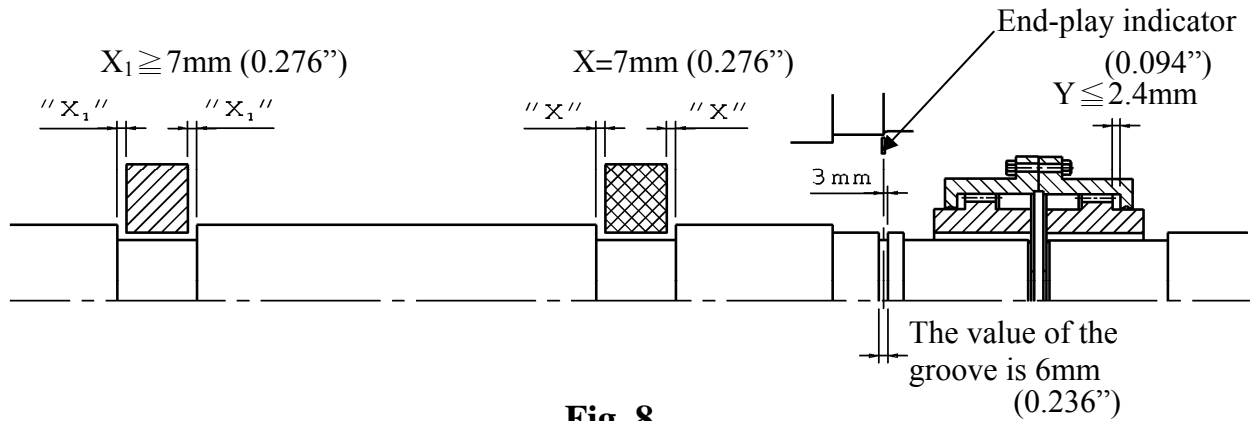

Fig. 8
- Unless otherwise specified, the designed end-play value X of the groove for TECO motors in general is within 7mm (0.276") as illustrated in Fig. 8. In essence, the end-play indicator is adjusted to point at the center of the groove or the drive-end shaft shoulder; thus X equals to 7 ± 1 mm (0.276" \pm 0.039") or so, and the end-play value (Y) of the couplings should equal or be smaller than 2.4mm (0.094").